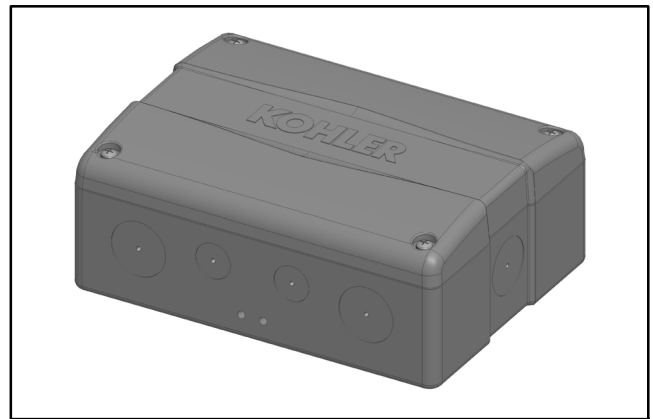

Figure 2-19 Kohler Power Relay Module
Kohler® power relay modules include one power relay mounted inside a NEMA type 3R enclosure. Connect up to four (4) power relay modules to the load shed kit. See Figure 2-19 for an illustration of a power relay module.